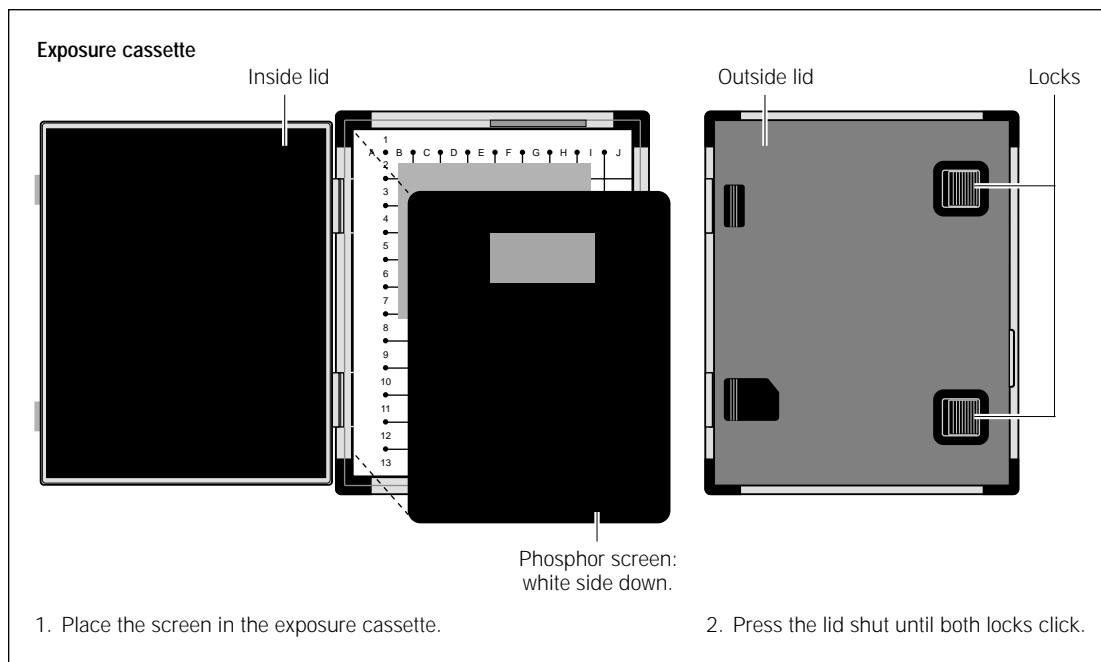

Figure 5-5. Loading a large unmounted screen into the exposure cassette.
- Gently lower the screen into place over the grid area in the cassette. The screen should be centered over the grid area and should lie straight and flat in the cassette (figure 5-5).